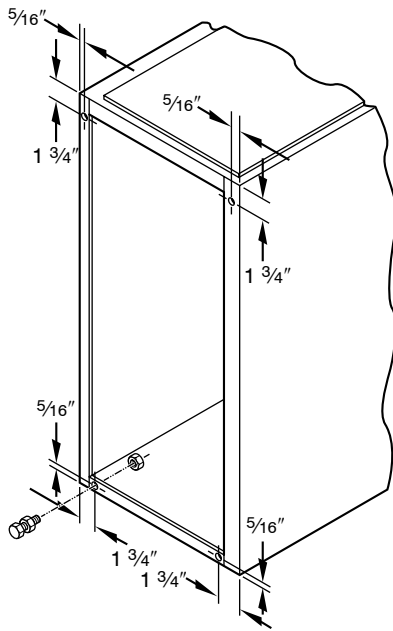

Fig. 18 - Leveling Legs
When furnace is used in upflow position with side inlet(s), leveling legs may be desired. (See Fig. 18.) Install field-supplied, corrosion-resistant 5/16-in. (7.9mm) machine bolts and nuts.
1. Position furnace on its back. Locate and drill a 5/16-in. (7.9mm) diameter hole in each bottom corner of furnace. (See Fig. 18.) Holes in bottom closure panel may be used as guide locations.